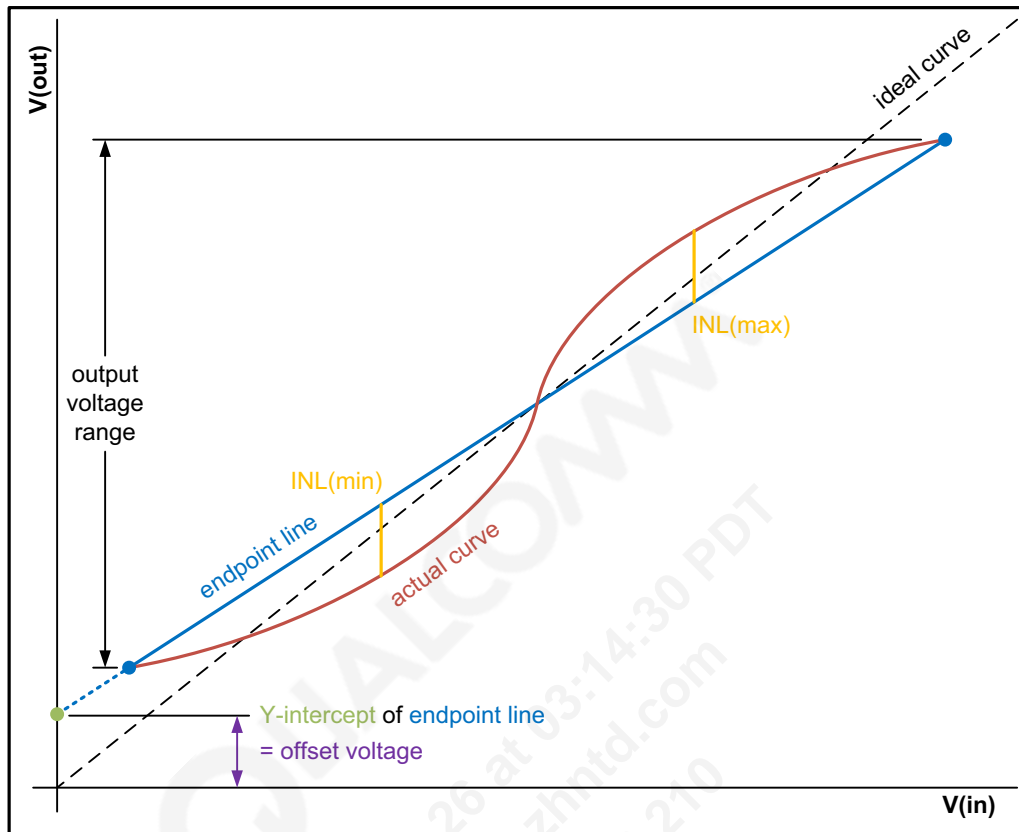

Figure 3-8 Multiplexer offset and gain errors
- Multiplexer offset error, gain error, and INL are measured as shown in Figure 3-8. Supporting comments: